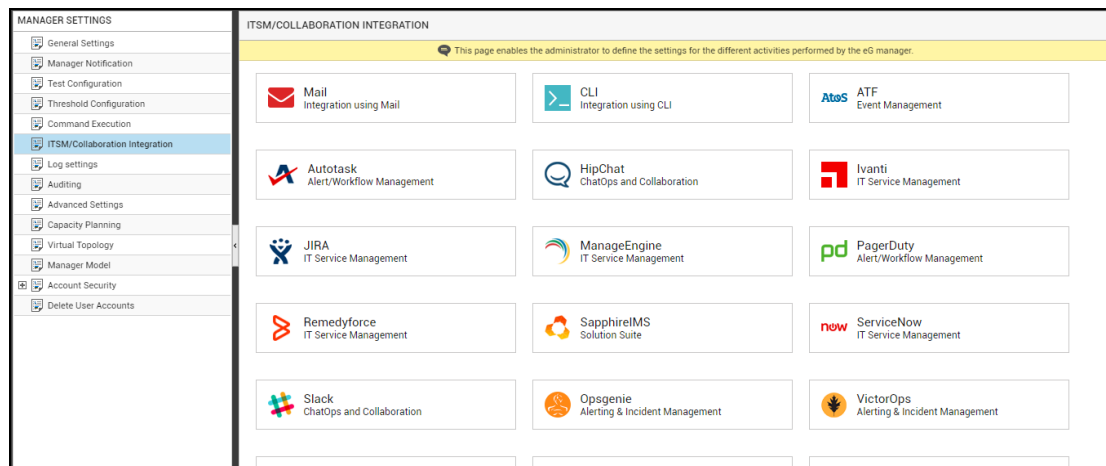

Figure 5.33: Viewing the ITSM/Collaboration tool options
3. Figure 5.33 will then appear. From the **MANAGER SETTINGS** tree in the left panel of Figure 5.33, select the **ITSM/Collaboration Integration** node. The third-party ITSM/Collaboration tools that eG Enterprise can integrate with will be listed in the right panel.
4. Now, click on the **Zendesk** option in the right panel (see Figure 5.33). A **Zendesk** section will now appear in the right panel (see Figure 5.34).